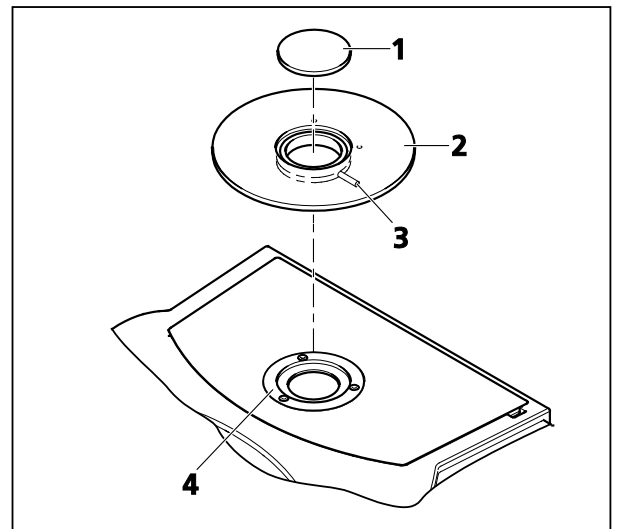

Fig. 14 Mounting stage with 84 mm mounting face
- Insert the stage (Fig. 14/2) into stage adapter (Fig. 14/4) and align.
- Throw eccentric clamping lever (Fig. 14/3) over to secure the stage in the stage adapter.
- Place the insert plate (Fig. 14/1) into the stage interface.